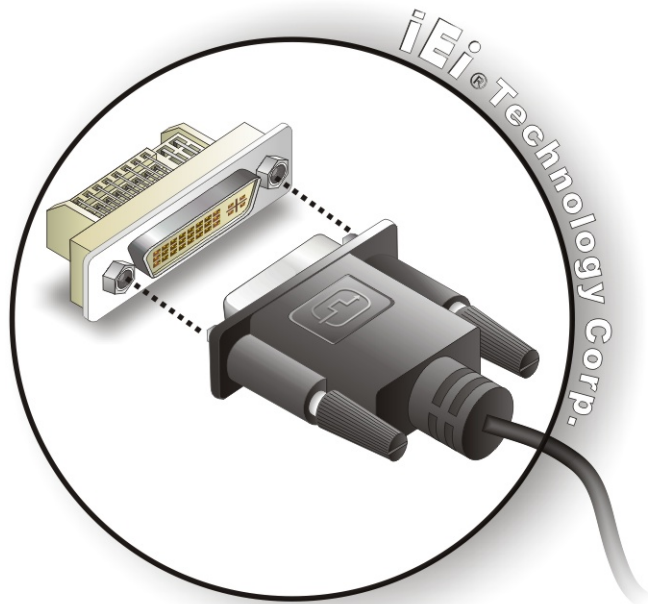

Figure 4-13: DVI Connector
- Step 3: Insert the DVI connector** Once the connectors are properly aligned with the male connector, insert the male connector from the digital display device into the female connector on the KINO-780AM2. See Figure 4-13.